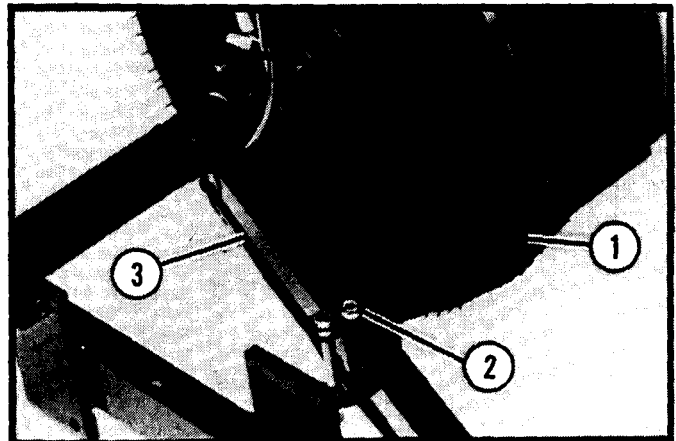

Figure 1
6. In the hole provided on top of the fender mounting brackets, center punch, then drill a 7/32" (6 mm) hole through the top of the frame only. Install a shakeproof lockwasher and a 1/4-20 x 1/2" (6.35 mm) self tapping screw to help secure fender brackets (See Figure 1).